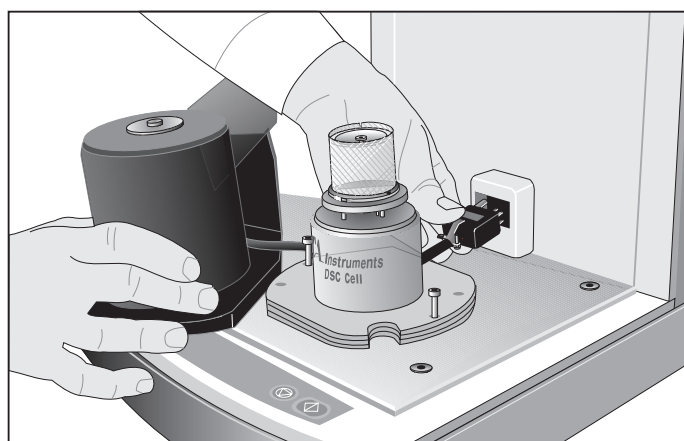

Figure 2.6
9. Plug in the heat exchanger cable as shown in Figure 2.6 below.